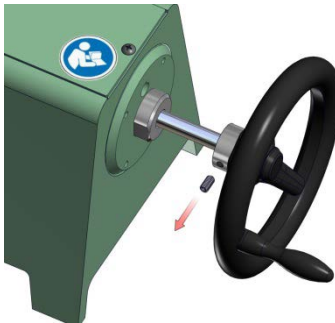

Figure 4.8.1
1. Remove the Rotary Handle set screw from the Spindle shaft (Item 3, figure 7.5). This will allow the Rotary Handle to be completely detached from the Spindle. See Figure 4.8.1. below.